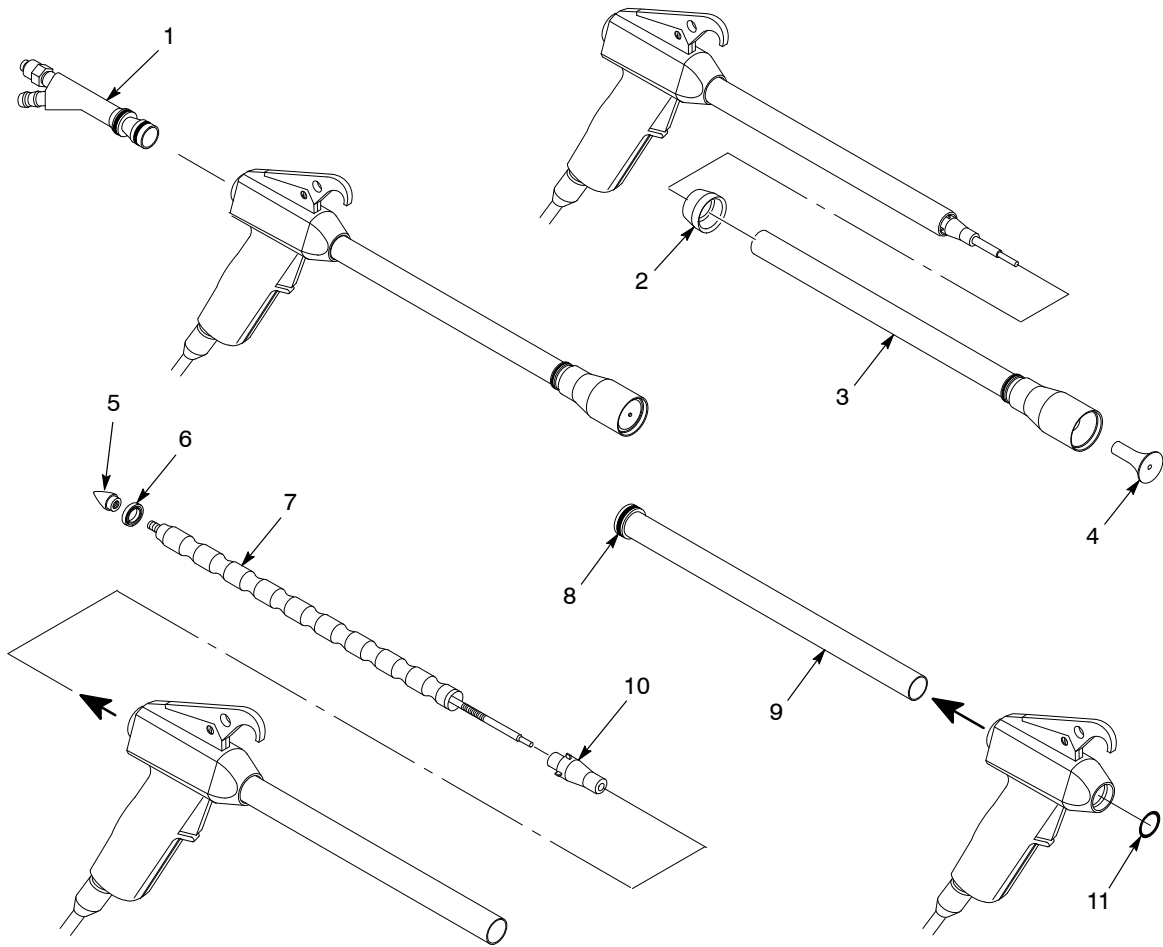

Figure 4 Inner and Outer Charge Sleeve Replacement
2. See Figure 4. Pull the diffuser (1) out of the spray gun body with a slight twisting motion.
3. Pull the outer charge sleeve support (3) out of the spray gun body with a slight twisting motion. The deflector (4) will pop out. Be careful not to lose it.
4. Slide the pattern adjuster retainer (2) away from the outer charge sleeve O-ring (8). The retainer can remain on the outer charge sleeve support, unless replacement is necessary.
5. Push, then pull the inner charge sleeve assembly (7) out of the outer charge sleeve. The inlet distributor (5), guide (6), and outlet distributor (10) are the only parts of the inner charge sleeve assembly that can be replaced separately. To replace these parts unscrew the distributor from the rest of the assembly.
6. Push, then pull the outer charge sleeve (9) out of the spray gun body.
7. Remove the O-ring (8) from the outer charge sleeve. If it is undamaged, it can be used on the new charge sleeve.
1. See Figure 4. Install the O-ring (8) on the new outer charge sleeve. Make sure the O-ring (11) in the spray gun body is undamaged. Replace the O-ring if necessary.